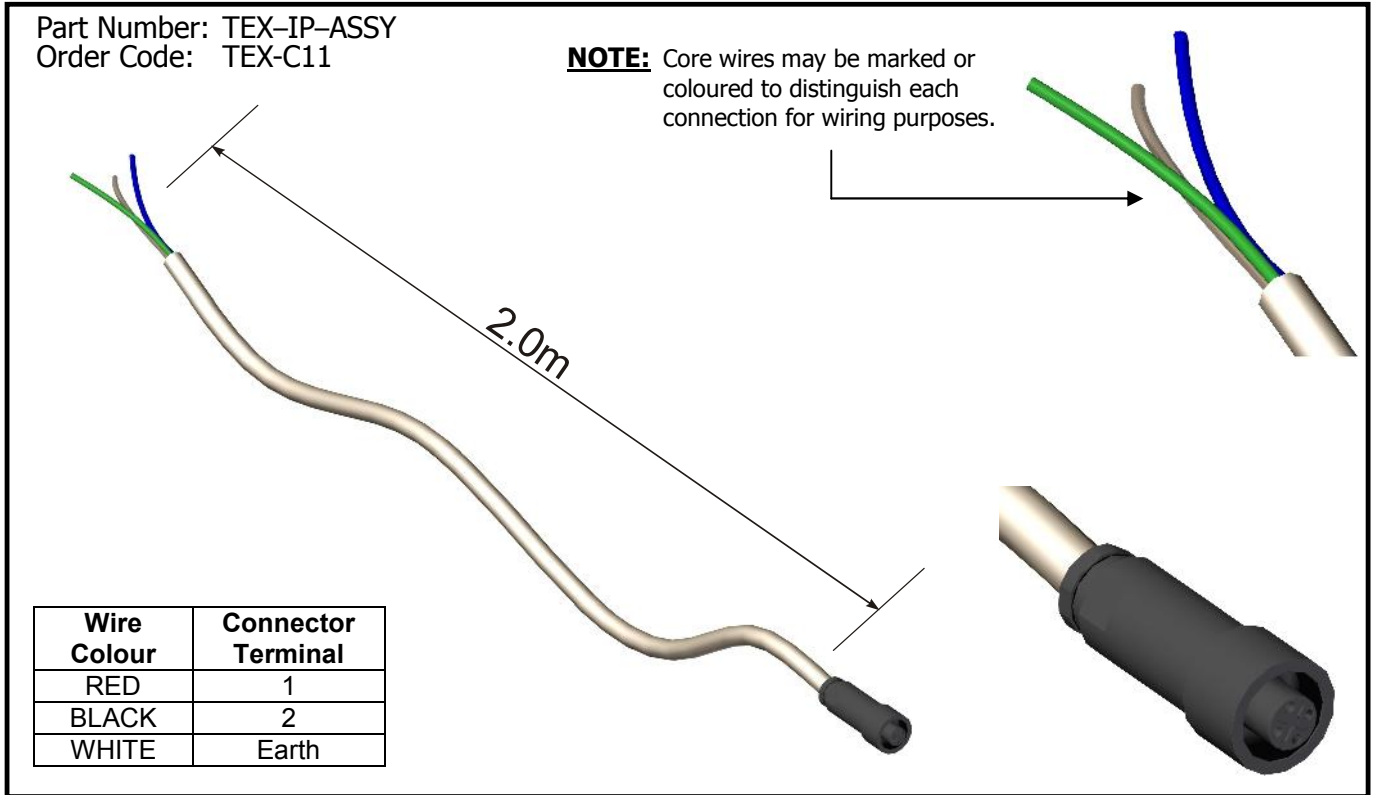

Fig. 2
Connectors on the user side: (see Fig. 2 & Fig. 3)	Input Cable Assembly: See Fig.2 (Tracopower P/N: TEX-IP-ASSY, 3 x 1.3mm ²) Input Connector: Binder Circular Connector Series 693: 99-4222-14-04 Output Cable Assembly: See Fig.3 (Tracopower P/N: TEX-OP-ASSY, 7 x 0.8mm ²) Output Connector: Binder Circular Connector Series 693: 99-4217-160-07
- User-side connector/Cable assemblies shown in *Fig. 2 and Fig. 3* on page 3.